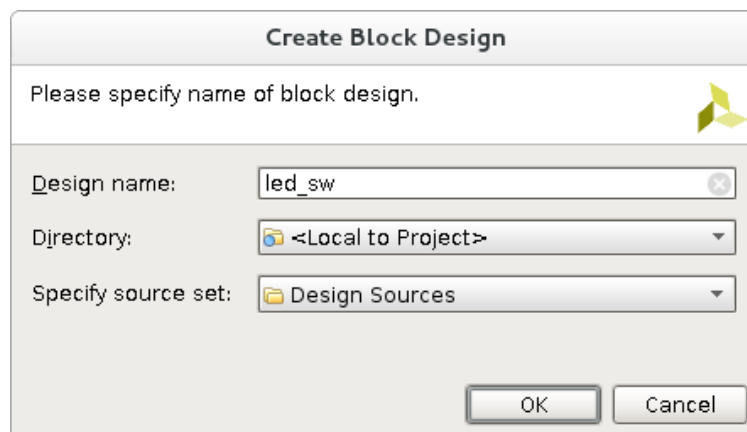

Figure 2: Create Block Design
- (d) On the left side, in the Flow Navigator under the IP Integrator section, click on 'Create Block Design'. A window opens where you can specify the name of your design(eg. led\_sw). Leave the 'Directory' and the 'Specify source set' as they are. Click on the 'OK' button. (Figure 2)